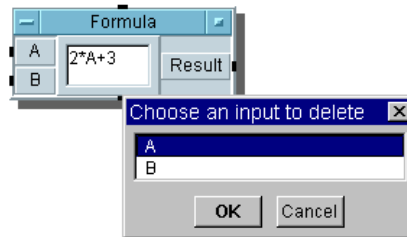

Figure 1-24. Delete Terminal Dialog Box
1. Open the object menu and select `Delete Terminal ⇒ Input...` or `Delete Terminal ⇒ Output`, choose the input or output to delete, and click `OK`. For example, Figure 1-24 shows the dialog box that appears when you choose `Delete Terminal ⇒ Input...`